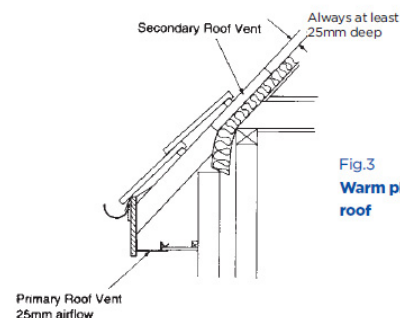

Fig.3
- With a pitched roof where the roof space contains living accommodation and part of the ceiling and insulation follow the same line as the rafters a free airflow is required which is equivalent to a continuous 25mm opening (25,000 mm² per metre run). See Fig. 3
- With a pitched roof where the roof space contains living accommodation and part of the ceiling and insulation follow the same line as the rafters a ventilation channel at least 25mm deep must be maintained between the roof insulation and the underside of the roof covering. See Fig. 3